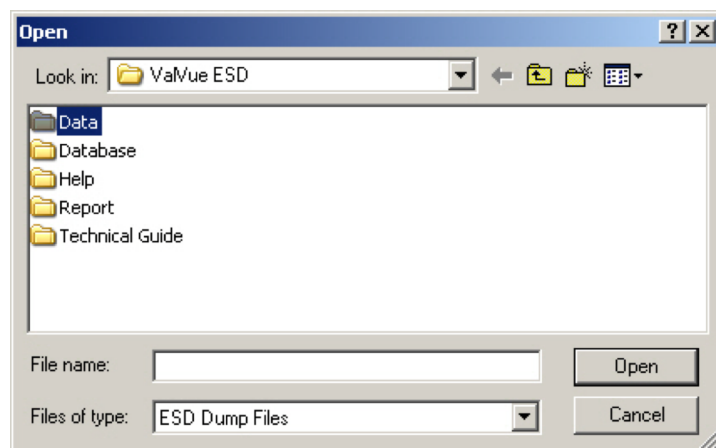

Figure 55 - File Open Window Launched at ValVue ESD
A file *Open* window appears (*Figure 55*).
2. Select a dump file as a simulated device. The dump files are installed with ValVue ESD in the same location as the program file: e.g. *C:\Program Files\DFC\ValVue ESD\Data*. The default location for SVI II ESD file *Open* window is shown in *Figure 55*.